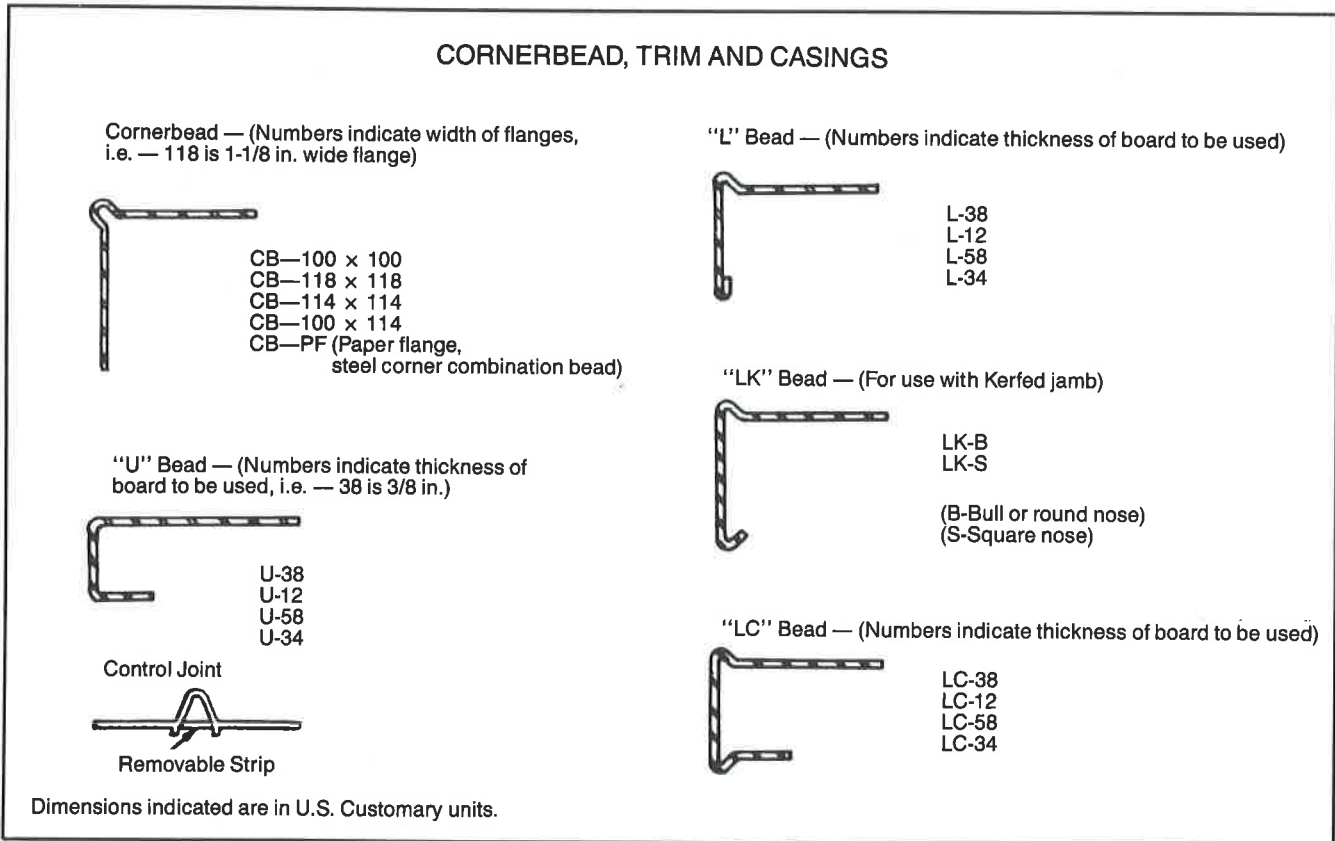

Fig. 1
- 3.12.1 Designations used to identify commonly specified types of metal or plastic trim and casings are shown in Figure 1 on facing page.